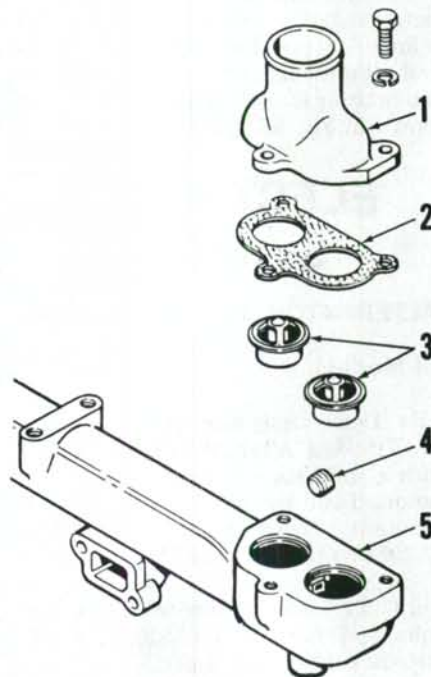

Fig. 79—Front end of water manifold showing thermostat housing.
91. The two thermostats are contained in a single housing as shown in Fig. 79. On all models thermostats should start to open at 175° F (79° C) and be fully open at 202° F (94° C). If thermostats do not fully open, the water will not be cut off complete to bypass hose, so water will continue to be routed back into engine.